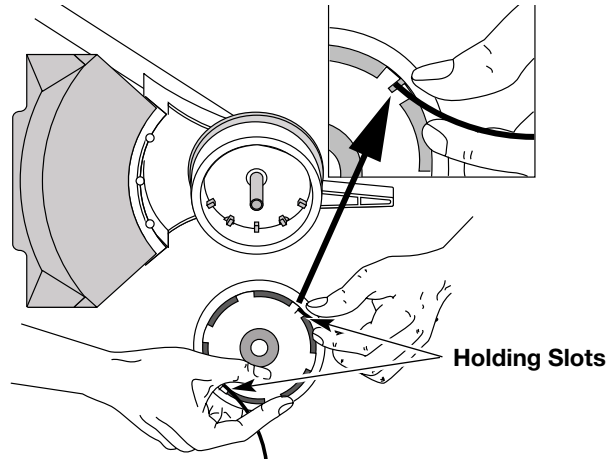

Fig. 37
- Insert the ends of the line into the two holding slots (Fig. 37).